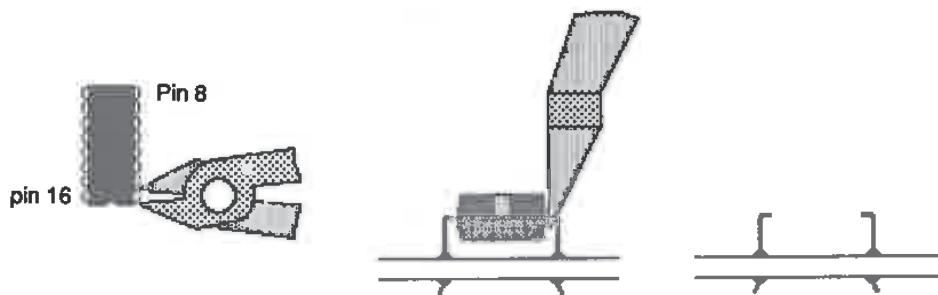

Figure 10-4 4164 RAM chip removal details. Courtesy of Sophisticated Circuits, Inc.
2. Use a pair of wire cutters to cut off all 16 terminal pins on all 16 of the RAM chips. As illustrated in Figure 10-4, cut the terminal pins as close to the chip bodies as possible. Since there are 16 pins on each of the 16 chips, this step involves making 256 cuts!